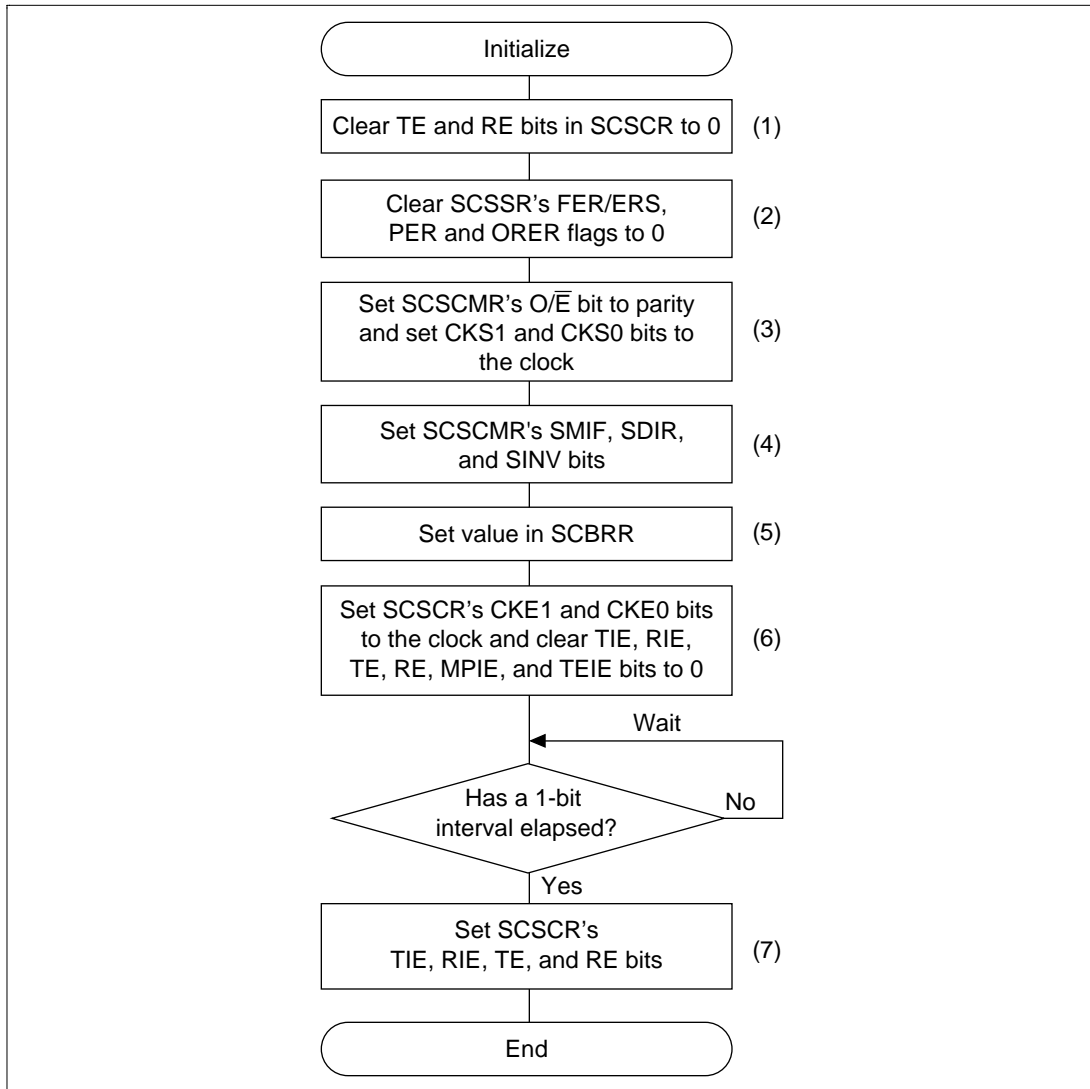

Figure 14.5 Initialization Flowchart (Example)
Initialization: Initialize the SCI using the following procedure before sending or receiving data. Initialization is also required for switching from transmit mode to receive mode or from receive mode to transmit mode. Figure 14.5 shows a flowchart of the initialization process.
1. Initialize the smart card interface mode as described above in Initialization and in figure 14.5.